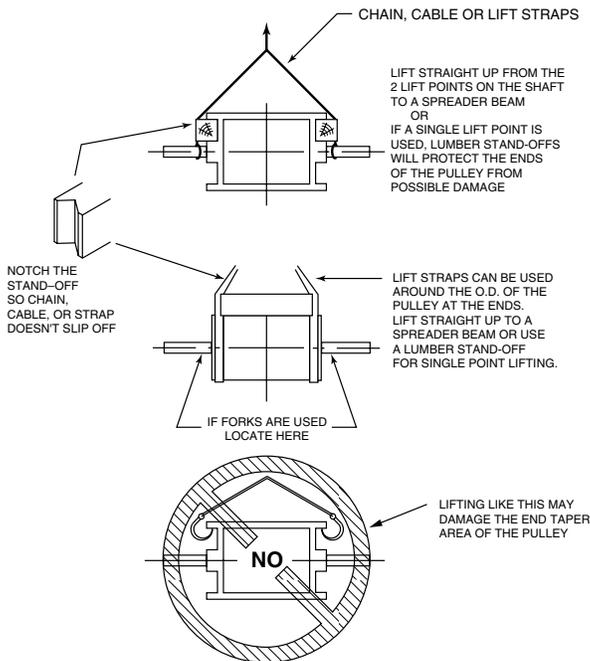

FIGURE 1.
- Then lift and move the pulley with bearings attached using the lifting guides illustrated in Figure 1 on the following page.
One of the arrangements illustrated and described in Figure 1 will work best for you. Just protect the shaft and the ends of the pulley from damage and observe the cautions previously discussed.
- Pass a non-magnetic pipe, tube, or rod thru the pulley and lift from it as illustrated in the top arrangement shown in Figure 1. The lift member you pass through the pulley does not have to fit the bore closely, but it has to have adequate strength for the pulley weight. Wrap the pipe, tube, or rod where it passes through the bore with a rubber sheet or thick tape so that the ID of the bore is not marred.
Use a piece of rubber sheet or carpet between the hook and the disk to protect the bored surface. Use standoffs as shown in the top view of Figure 1 to protect the edges of the pulley.